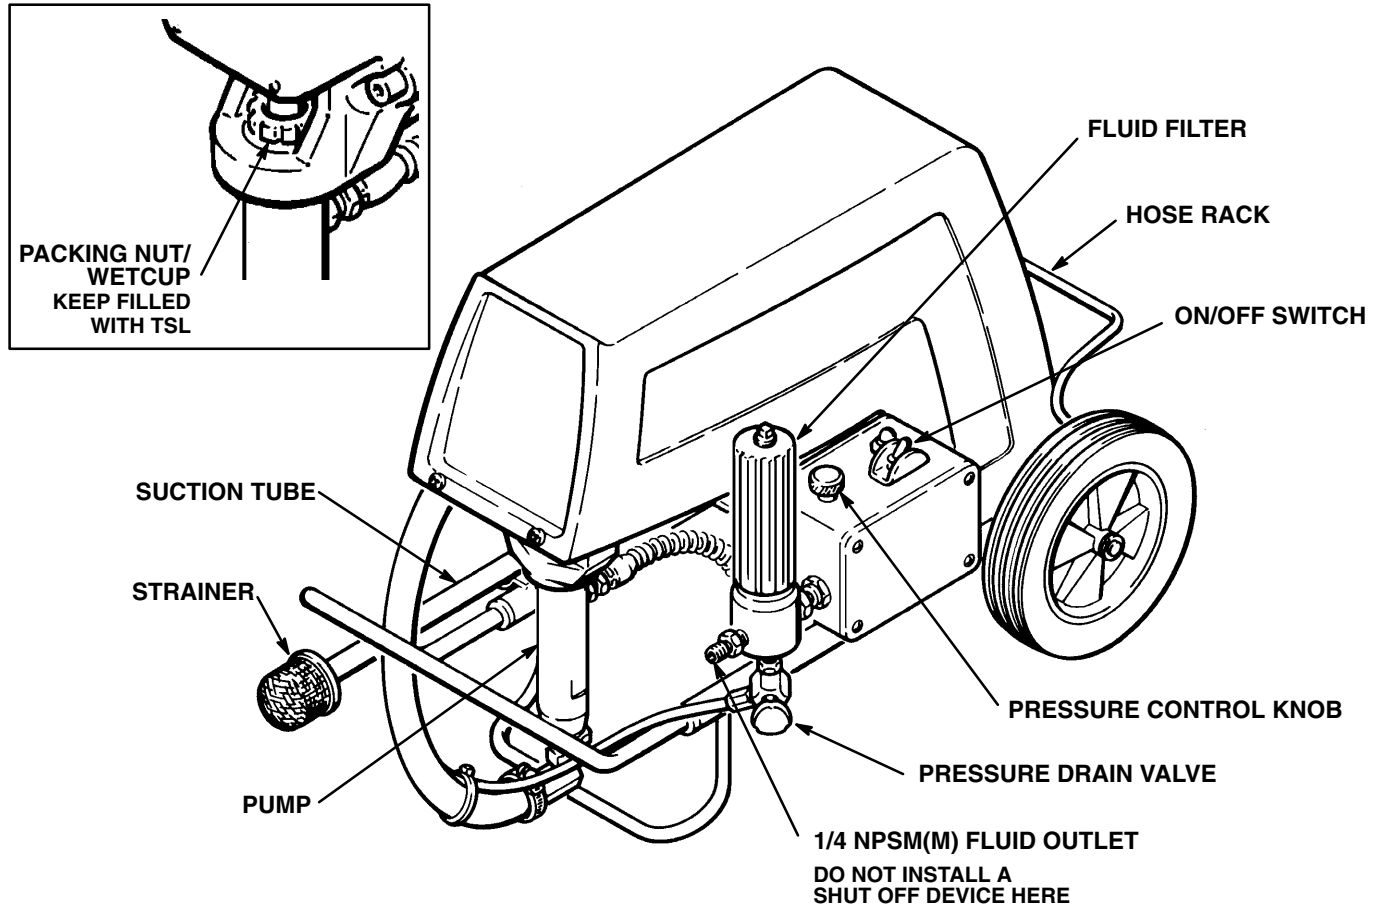

Fig 1
3. Never install any shutoff device between the fluid filter and the first 50 feet (15 m) of hose. See Fig 1.